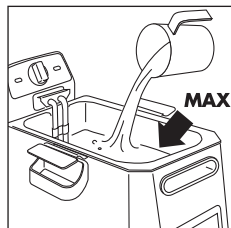

fig. 3
- If oil is used, pour it into the bowl until reaching the maximum level indicated (see Fig. 3). Never exceed this limit, as oil may overflow from the container. The level of oil must always be between the maximum and minimum limits. For best results, use good quality peanut oil.